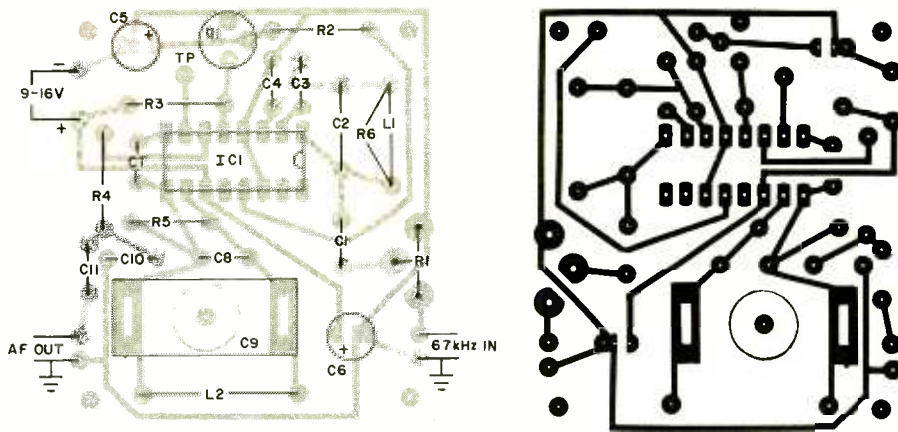

Fig. 3. Actual-size foil pattern and (far left) component installation. Observe polarities on electrolytics.
Construction. Although there are no r-f signals present, the high gain of the IC makes parts placement in the circuit somewhat critical. A pc board is therefore recommended (Fig. 3). When tuning the capacitor, C9, is installed, the side of the capacitor having the top plate should be closest to capacitor C6. Observe the notch code on IC1 and the polarities of the two electrolytic capacitors.
The test point is simply a small loop of bare wire, soldered into the board at the point (TP) shown in Fig. 3.